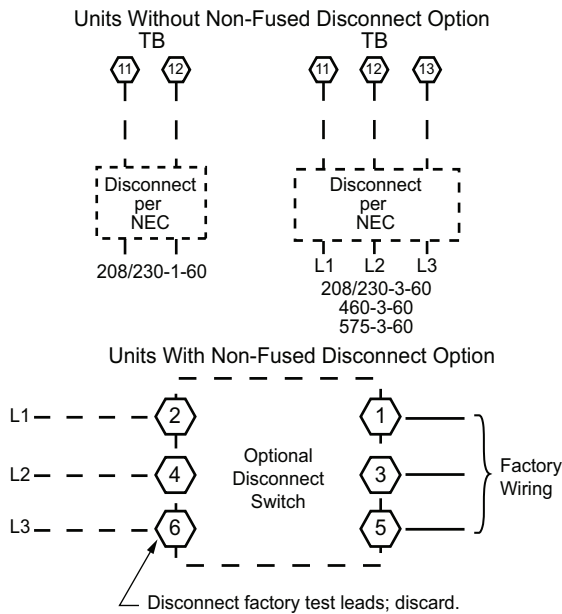

Fig. 26 — Power Wiring Connections
The field power wires are connected to the unit at line-side pressure lugs on compressor contactor C (see wiring diagram label for control box component arrangement) or at factory-installed option non-fused disconnect switch or HACR. Maximum wire size is no. 2ga AWG (copper only) per pole on contactors and no. 2ga AWG (copper only) per pole on optional disconnect or HACR. See Fig. 26 and unit label diagram for field power wiring connections.
The factory-installed option non-fused disconnect (NFD) switch is located in a weatherproof enclosure located under the main control box. The manual switch handle and shaft are shipped in the disconnect enclosure. Assemble the shaft and handle to the switch at this point. Discard the factory test leads (see Fig. 26).
All field wiring must comply with NEC and all local codes. Size wire based on MCA (Minimum Circuit Amps) on the unit informative plate. See Fig. 26 and the unit label diagram for power wiring connections to the unit power terminal blocks and equipment ground. Maximum wire size is no. 2ga AWG (copper only) per pole on contactors. See Fig. 26 and unit label diagram for field power wiring connections.
2. Install power lines to terminal connections as shown in Fig. 26 on page 18.